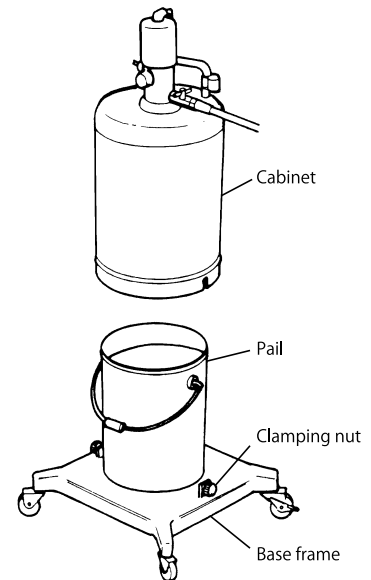

Fig. 2
- 2) Loosen the two clamping nuts at the bottom of the cabinet (turn them counterclockwise), and remove the cabinet from the base frame. (Fig. 2)